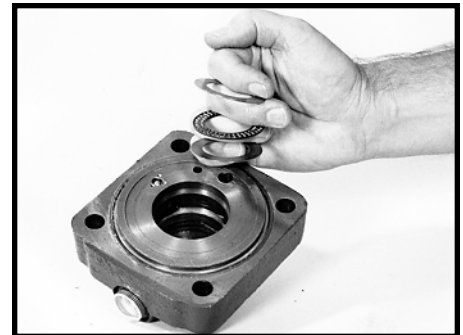

Figure 62
- 24. Remove the first thrust washer (11), the thrust bearing (12), and the second thrust washer (11) from the valve housing (9). SEE FIGURE 62.